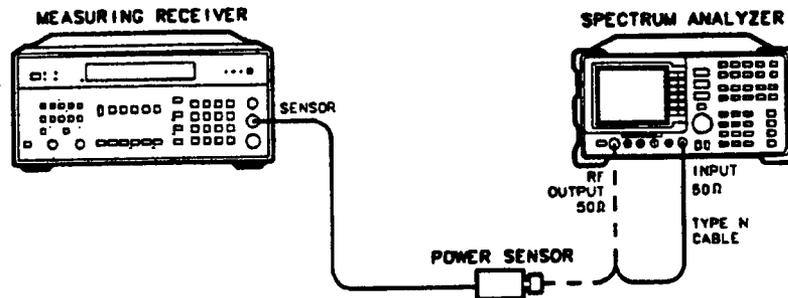

Figure 2-27. BITG Power Level Adjustment Setup
7. Disconnect the cable from the RF OUT 50Ω connector, then connect the power sensor to the RF OUT 50Ω connector. See Figure 2-27.